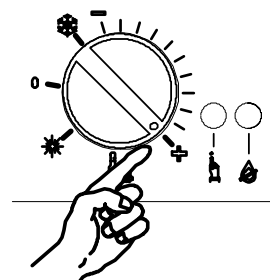

Fig. 2.7
The output temperature of c.h. water is adjustable from a minimum of about 38°C to a maximum of about 85°C (Fig. 2.7), by turning the function selector (8).